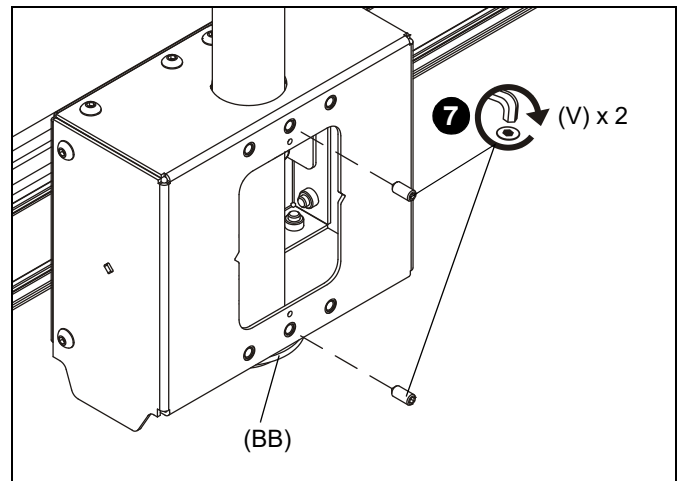

Figure 3
6. Loosen two installed set screws (V), and slide ceiling mount down extension column until it rests on the bottom coupling (BB). (See Figure 3)
7. Retighten two 5/16" set screws (V) against column. (See Figure 3)